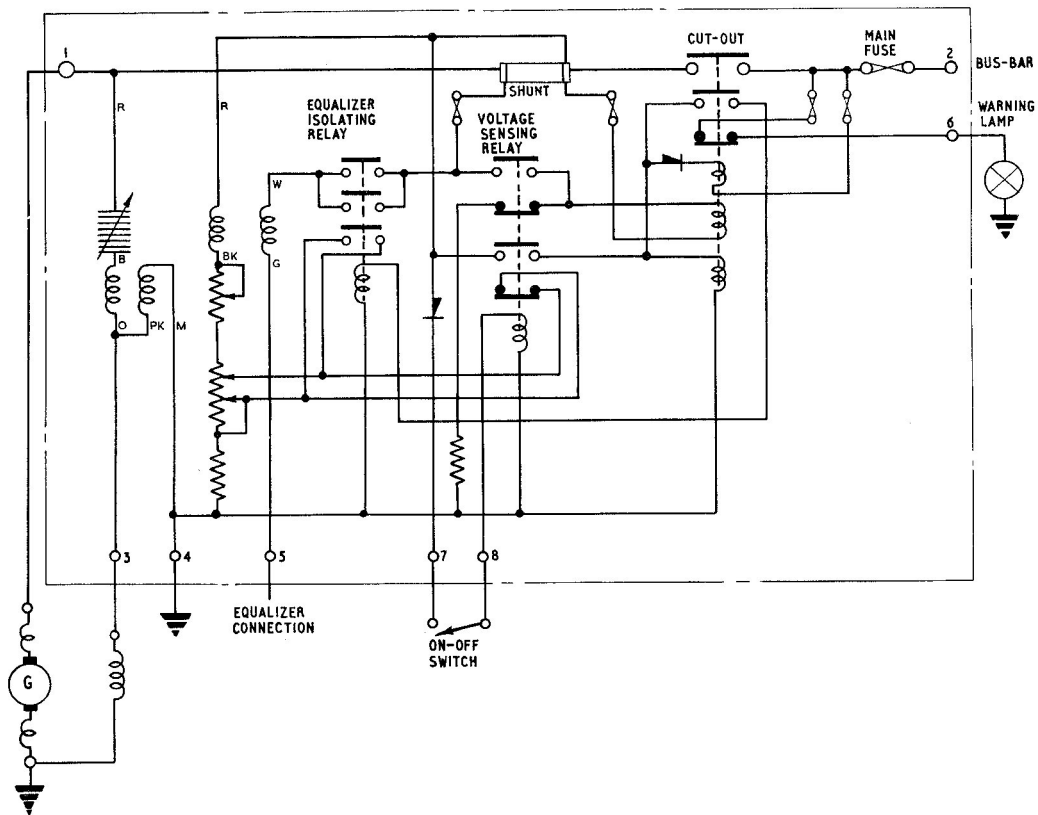

Fig.4. Circuit diagram.
23. The test circuit requires an on/off switch and a warning light to be connected as shown in fig.4, a means of applying the generator full load of 75A at 28V, and a 24V battery of not less than 40AH capacity to be connected to terminal 2.